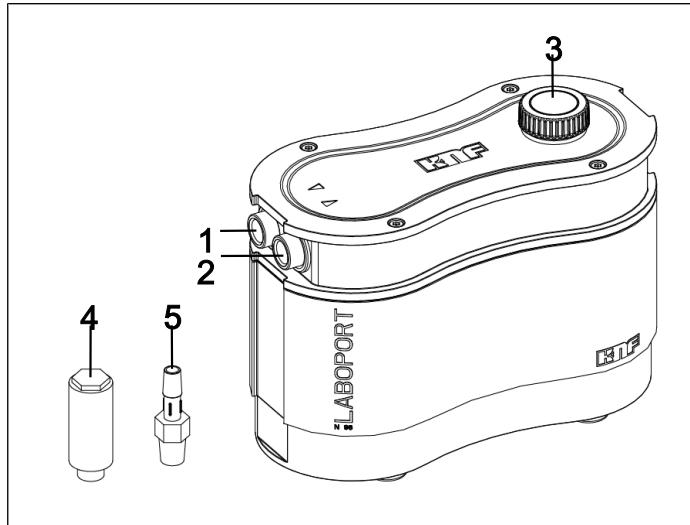

Fig. 1: Laboport N96
- For vacuum operation, connect the hose connector (see Fig. 1/5) to the suction side and the silencer (see Fig. 1/4) or your vacuum system components to the pressure side.